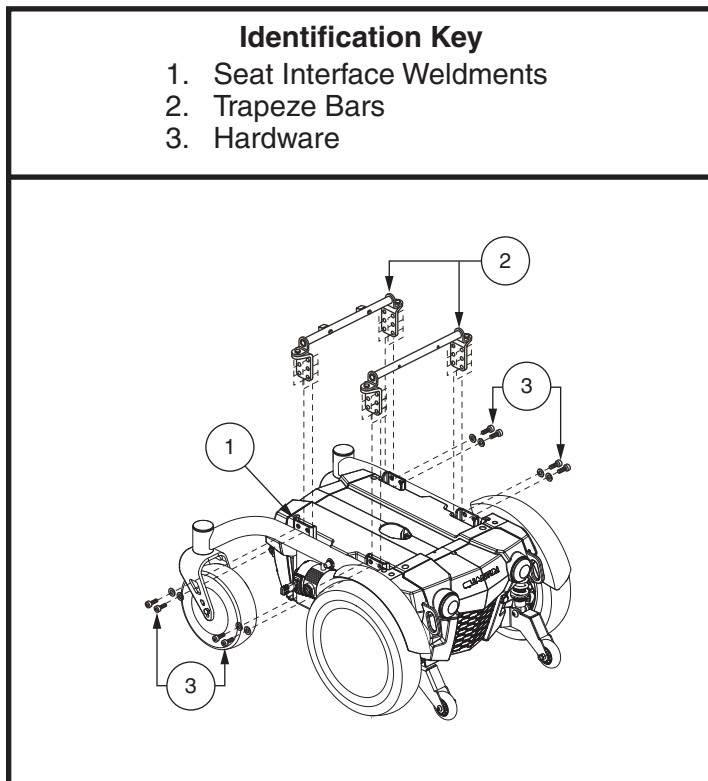

Figure 11. Seat Height and Angle Adjustments for Contour Seat
7. Remove the hardware that attaches the trapeze bars to the seat interface weldments. **See figure 11.**